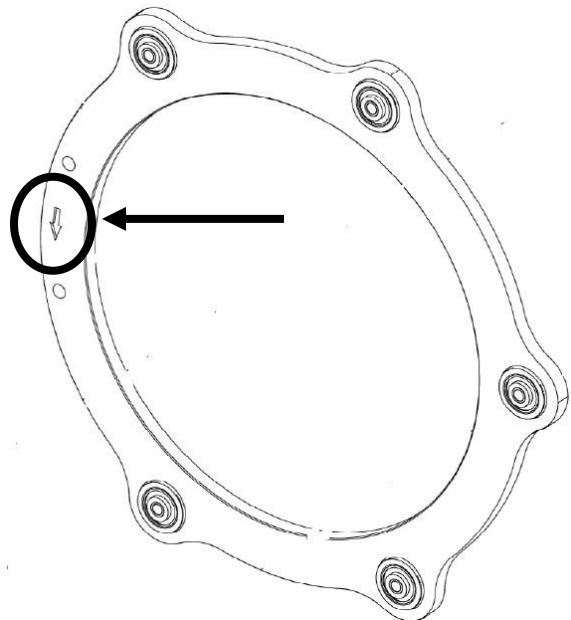

Figure 276
9. **Note: Make certain that the arrow on the center ring is pointing in the direction of rotation for the reel.** Figure 276